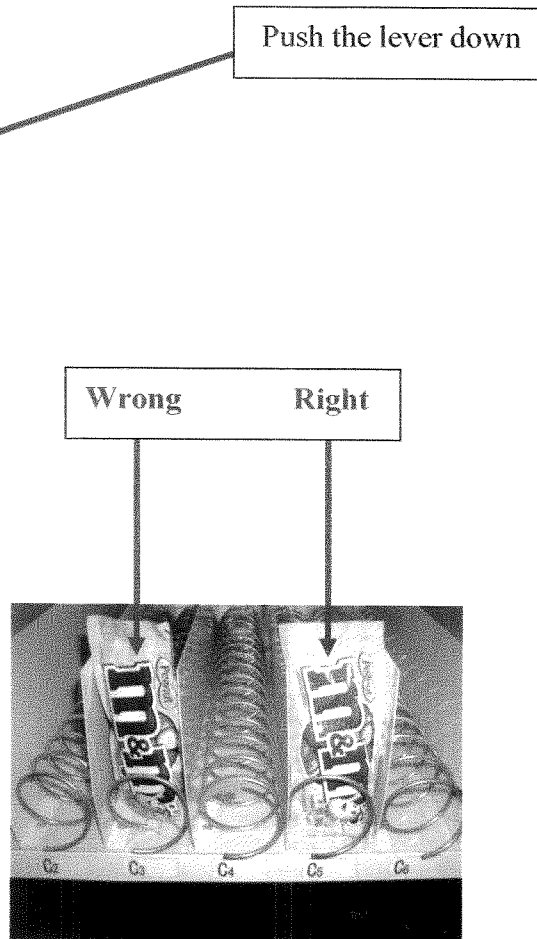

Figure 11 – Proper way to load product
- Load the products in between the coils on the product tray (*reference figure 11*).